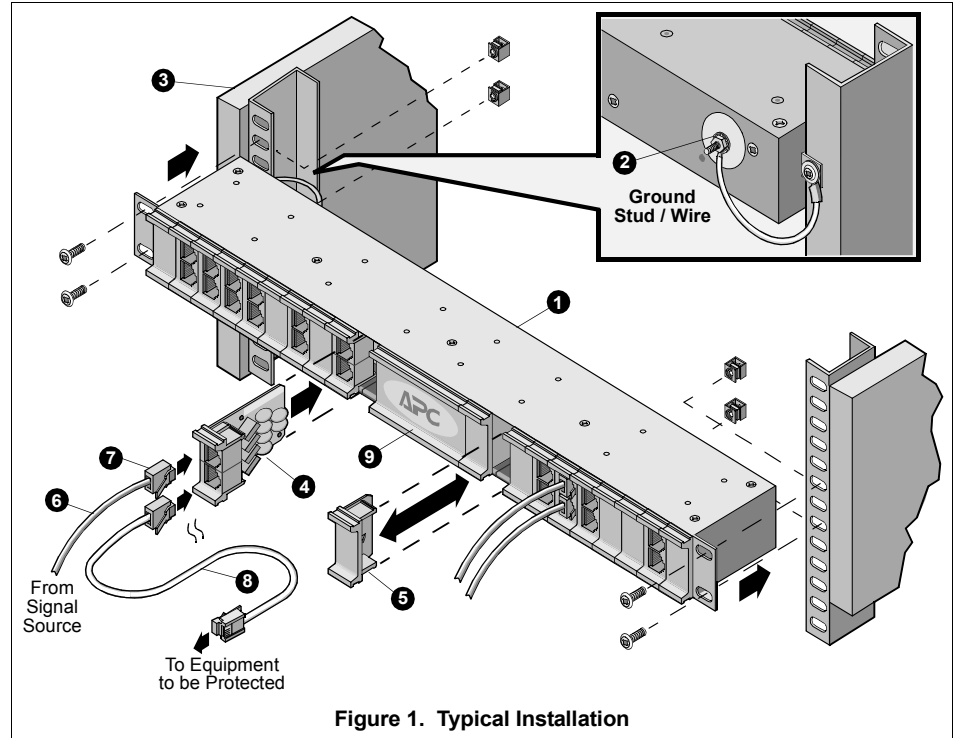

Figure 1. Typical Installation
APC recommends that the ProtectNET™ Data Line Surge Protection chassis (1, Figure 1) PRM24, be installed using the mounting hardware provided with the chassis. Additionally, the chassis must be connected to a proper protective earth ground. A ground stud (2) is provided on the back of the chassis. Ensure the mounting rack or enclosure (3) is connected to a proper ground. Install the chassis and modules (4) as shown in the illustration below.